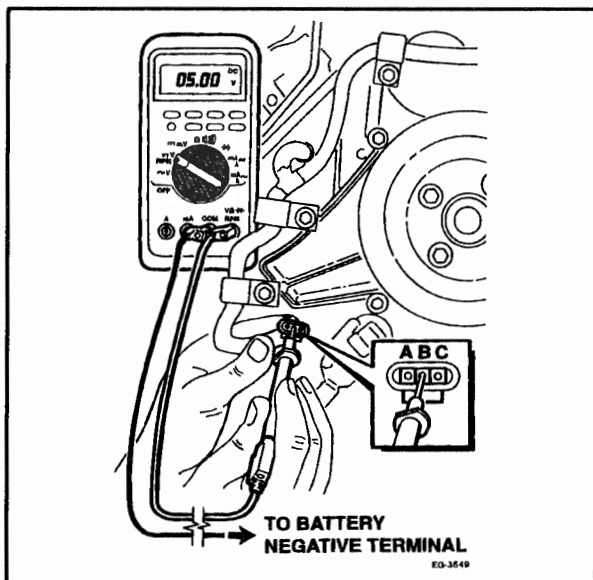

Figure 3.4-3. Measuring V Ref Voltage
- V Ref should measure 5.00 volts \pm .50 volts. If this is higher or lower than expected, disconnect sensors one at a time to determine if a sensor is biasing the circuit and refer to V Ref procedures. **Figure 3.4-3.**